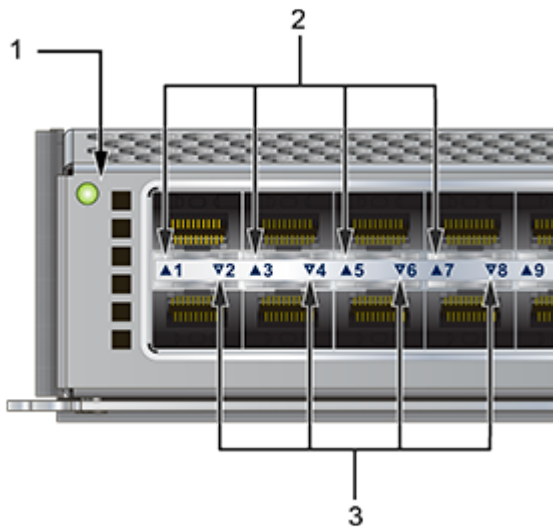

Figure 27: Linecard Status LEDs (DCS-7300X-LC)
- Figure 27: Linecard Status LEDs \(DCS-7300X-LC\) displays SFP module LEDs. Each LED corresponds to a module.